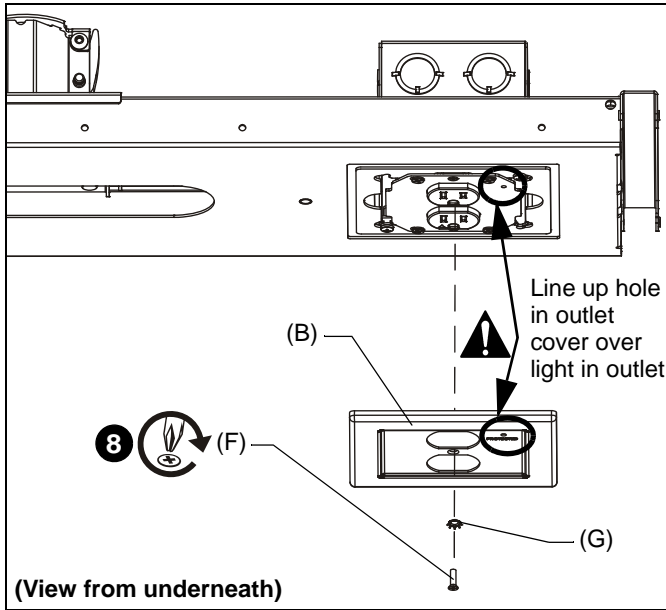

Figure 5
8. Install outlet cover (B) over outlet box using one 6-32 x 1/2" Phillips flat head screw (F) and one #06 lock washer (G). (See Figure 5)